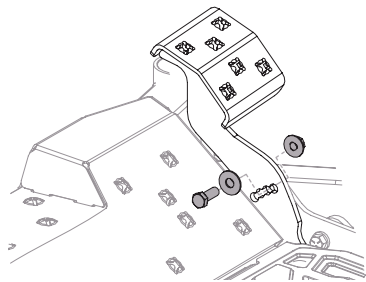

Figure 41
2. Remove the hex bolt, washer and hex nut near the center of the pedal assembly (Figure 41).
4. Reinstall the hardware previously removed and torque the nut to 28-35 ft-lbs (38-47 N-m) (Figure 41 on page 28).